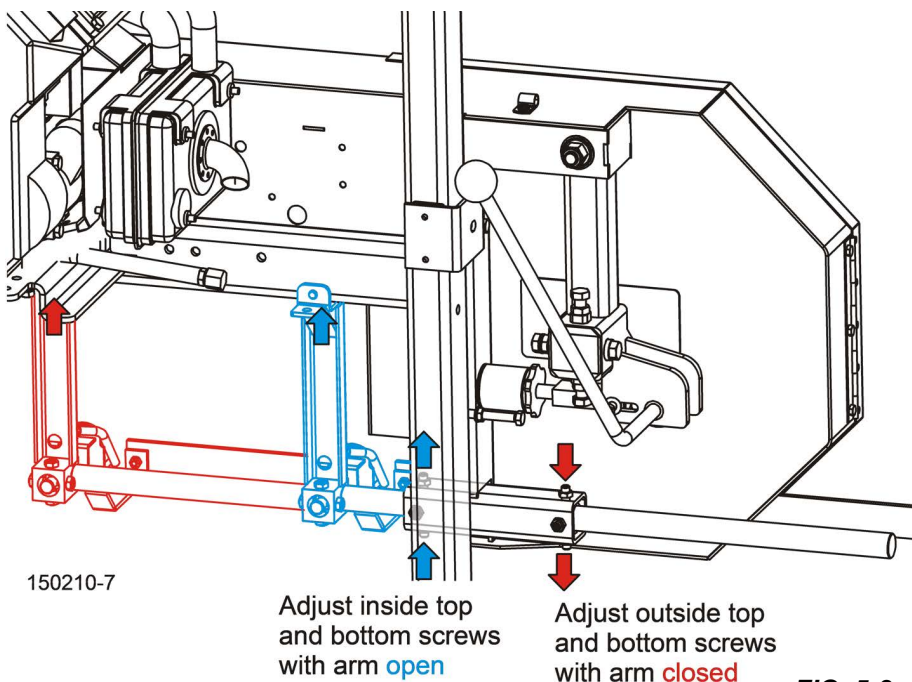

FIG. 5-2
1. Adjust the blade guide arm out to $\frac{1}{2}$ " (13 mm) from fully open. See FIG. 5-2.